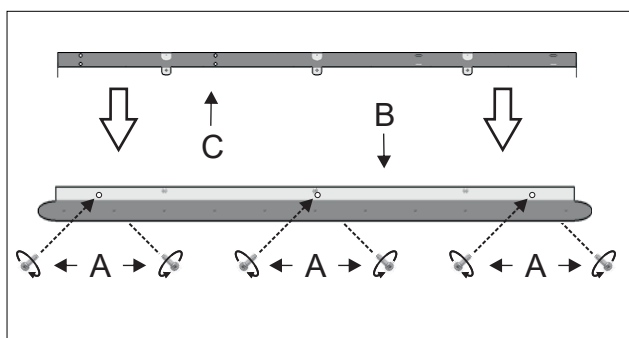

Figure 4
4 - Attach the canopy (B) back to the mounting bracket (C) and secure it with the screws (A) that were previously removed. Figure 4.